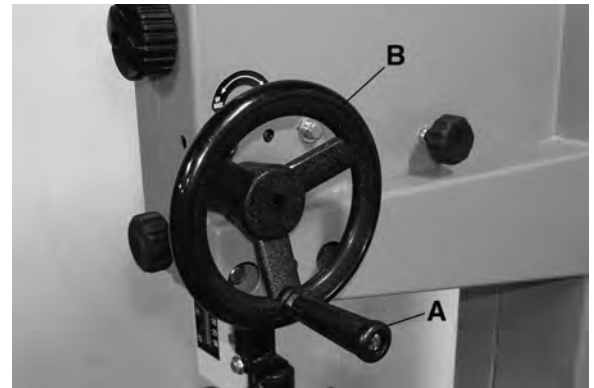

FIGURE 4
1. Attach handle (A) Fig. 4 to the handwheel (B).